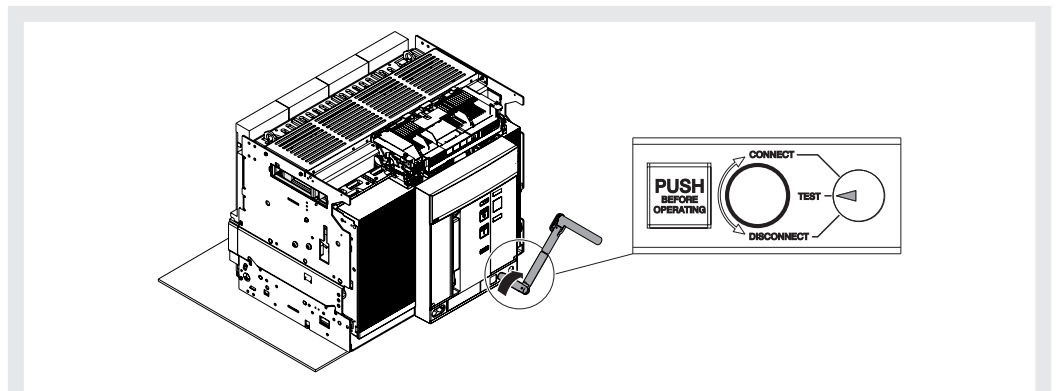

Figure 44
10. Turn the crank clockwise until the pushbutton comes out and the indicator shows that the circuit-breaker is in **TEST** position. See Figure 44.